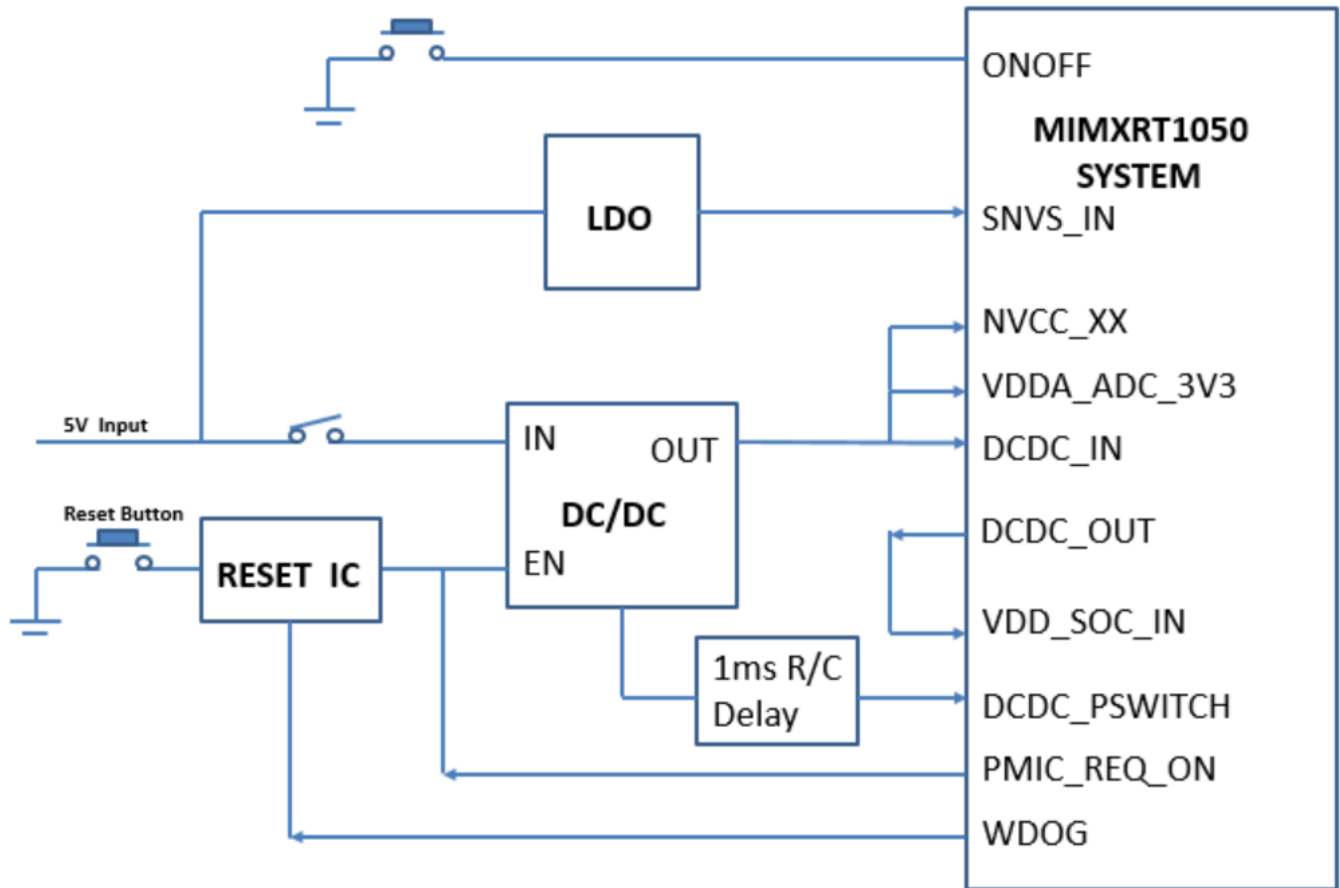

Figure 2. Power control diagram
- For IMXRT1050-EVKB, see Figure 2.